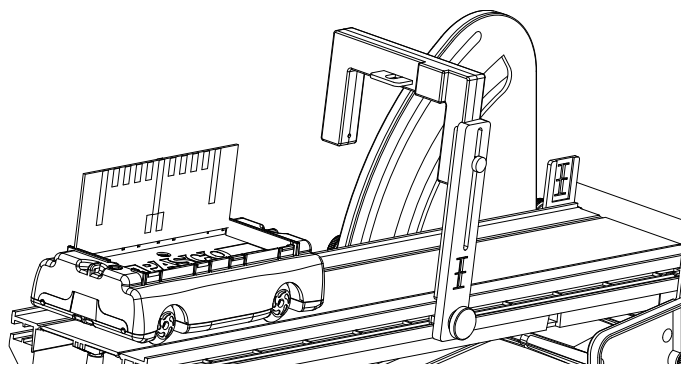

Figure 2.2
1. Set up the PAStrack and Inclined Plane Accessory as shown in Figure 2.2 with a Photogate Head and Photogate Bracket. Elevate the PAStrack to an angle of 14 degrees.